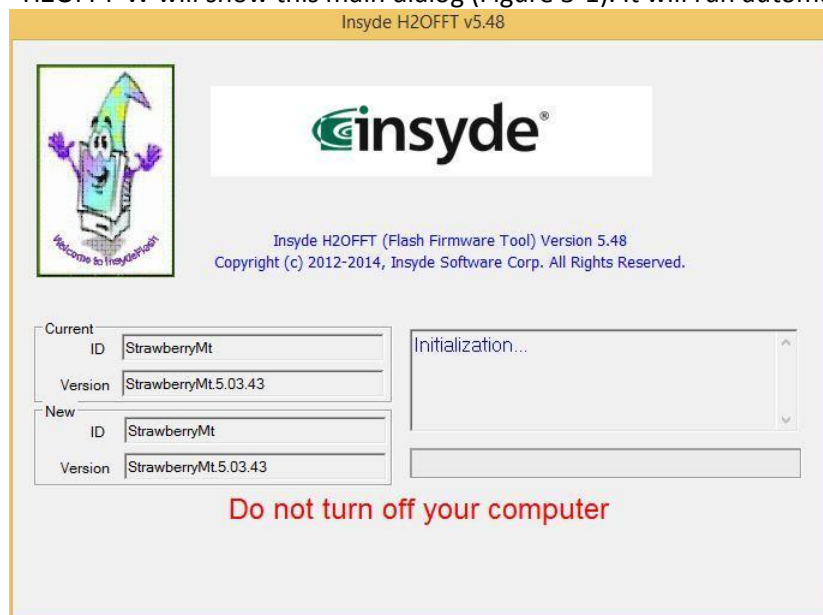

Figure 3-1. Auto-flash mode
1. Flag set to 0: H2OFFT-W will show this main dialog (Figure 3-1). It will run automatically.